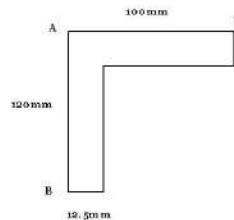

Figure 34
15. An unequal angle section shown in **Figure 34** is used as simply supported beam over a span of 2 m and uniformly distributed load of 10KN/m , inclusive of its own weight. Determine the maximum tensile and compressive stresses in the section